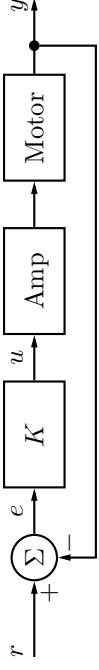
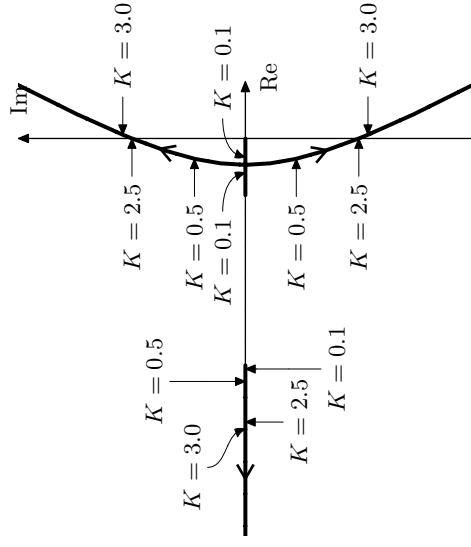
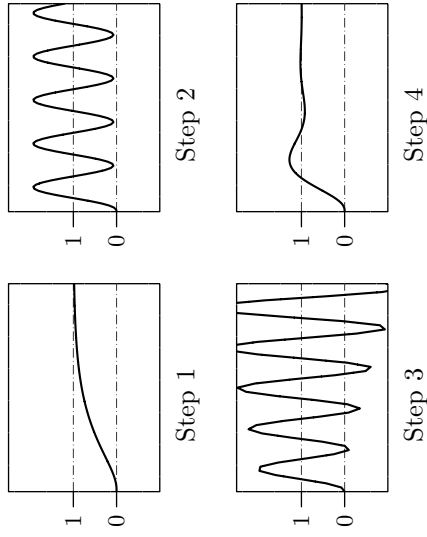

Figure 2.2a
Figure 2.2b
Figure 2.2c. All comparable axes have equal scaling.
2.2 A servo system for positioning of a tool in a tooling machine is depicted in Figure 2.2a. In Figure 2.2b, the poles of the closed loop system are plotted for different values of the gain  $K$ . Find (without calculations), for each of the step responses in Figure 2.2c, the corresponding value of  $K$  used when generating the step response.